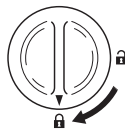

Figure 4 – Lock Lid
7. Close the aseptic housing lid and rotate its latch clockwise 90° until the detent clicks into place. Ensure the marker aligns with the lock symbol (Figure 4).